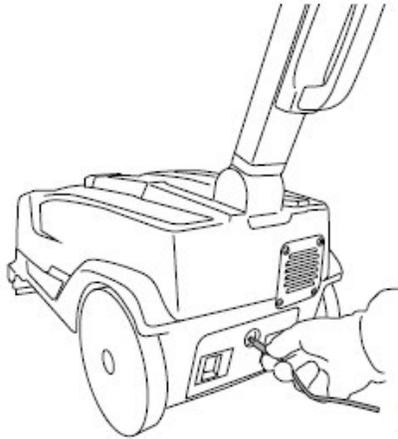

Fig. 13
- Insert the jack plug of the battery charger into the socket on the battery (fig. 13).